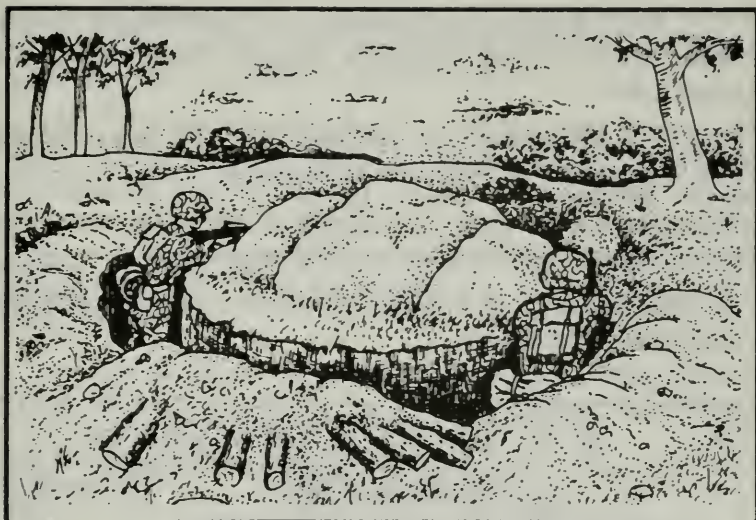

Figure 220. Two-man modified fighting position.
b. The two-man modified fighting position is used in close terrain, where grazing fire and mutual support extend no farther than to an adjacent position, or to cover dead space directly in front of his position. This is done by extending one or both ends of the hole around the sides of the frontal cover (Figure 220).
(1) The advantage of extending the ends of the two-man position: